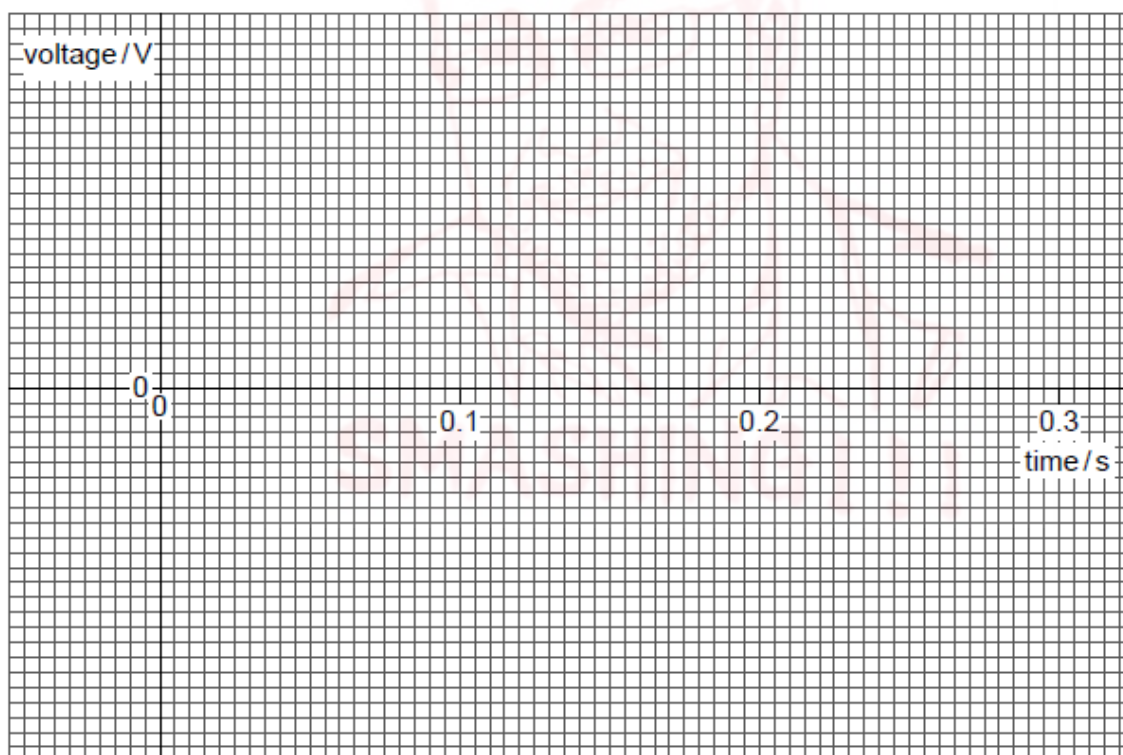

Fig. 8.2
- (a) Fig. 8.2 shows the axes of a voltage-time graph for the generator output.
On Fig. 8.2,